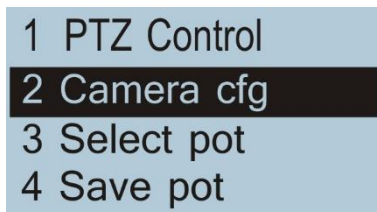
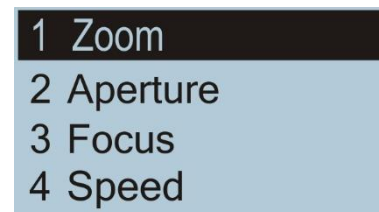

Figure 7.14
Figure 7.15
4. Enter the lens parameter interface according to Figure 7.14, and set camera zoom, aperture, focal length variation and speed parameters respectively, as shown in Figure 7.15.